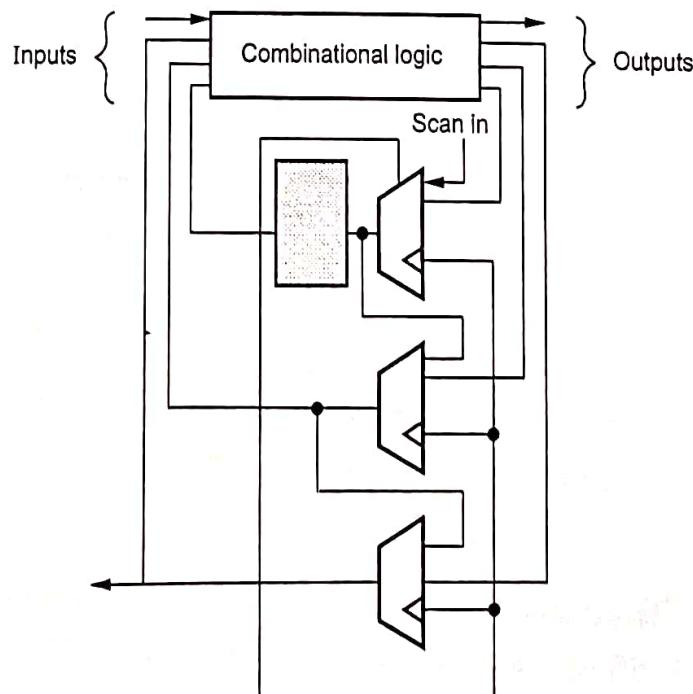

Fig. 5.2.1
- The storage elements are connected to form a long, serial shift register therefore called scan path by using multiplexer and a mode control signal as shown in Fig. 5.2.1.